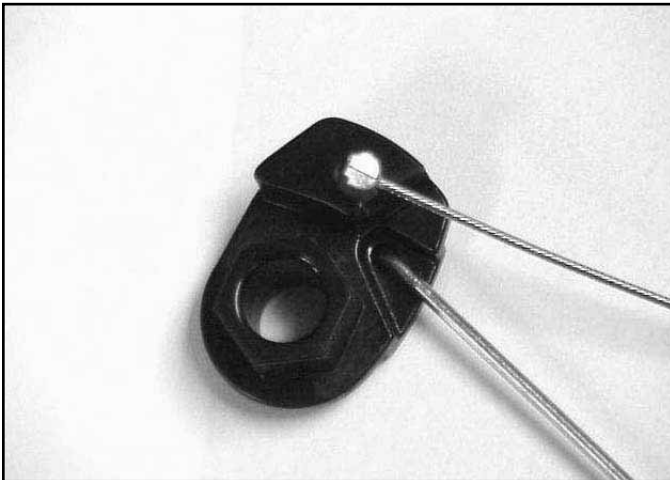

Fig 024
6. Rotate the cable until the barrel fitting slides off the cable lever (Fig. 024).